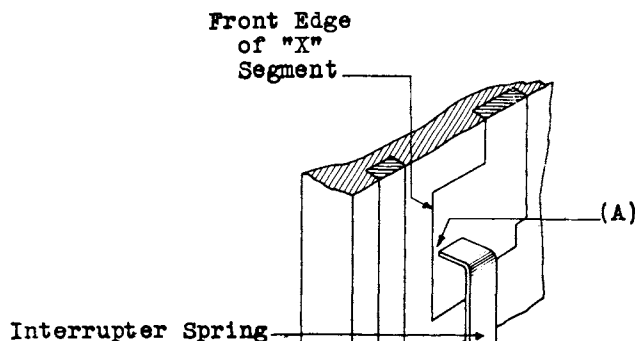

Fig. 4
- (b) Fig. 4 (A) - On 4A, 4B, 4C and 3U Commutators there shall be a perceptible clearance (min. .003") between the front edge of the interrupter spring and the front edge of the "X" segment when the play between the brush assembly and the commutator is taken up in the adverse direction. Gauge by eye.